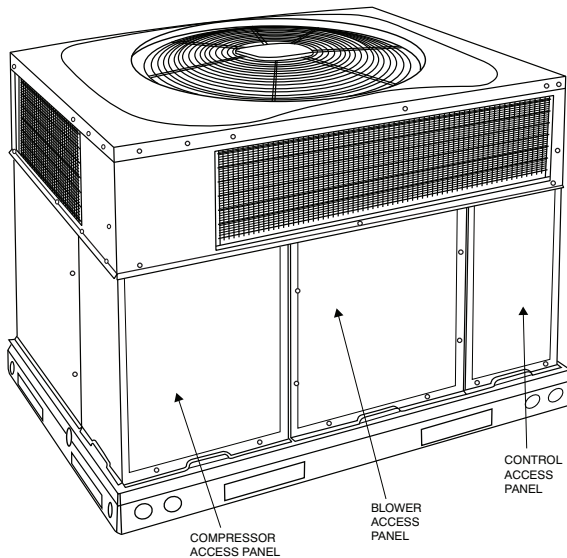

Fig. 25 – Unit Access Panels
- a. Remove blower access panel (see Fig. 25).
- g. Reinstall blower access panel (see Fig. 25).
1. Remove control access panel (See Fig. 25).
Remove blower access panel (see Fig. 25). Limit switch is located on the fan partition.
3. Remove control access panel (See Fig. 25).
Remove access panels (see Fig. 25) to locate all the electrical controls and wiring. Check all electrical connections for tightness. Tighten all screw connections. If any smoky or burned connections are noticed, disassemble the connection, clean all the parts, re-strip the wire end and reassemble the connection properly and securely.